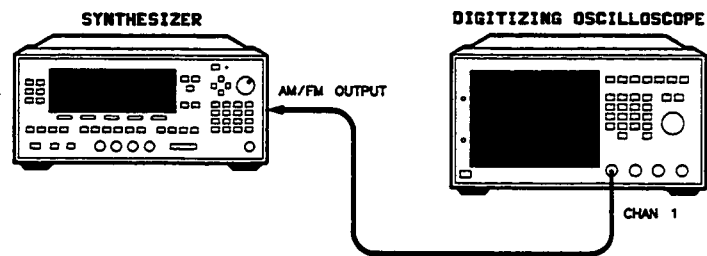

Figure 3-44. Modulation Generator Flatness Adjustment Setup
1. Connect the equipment as shown in Figure 3-44. Preset all instruments and let them warm up for at least one hour.